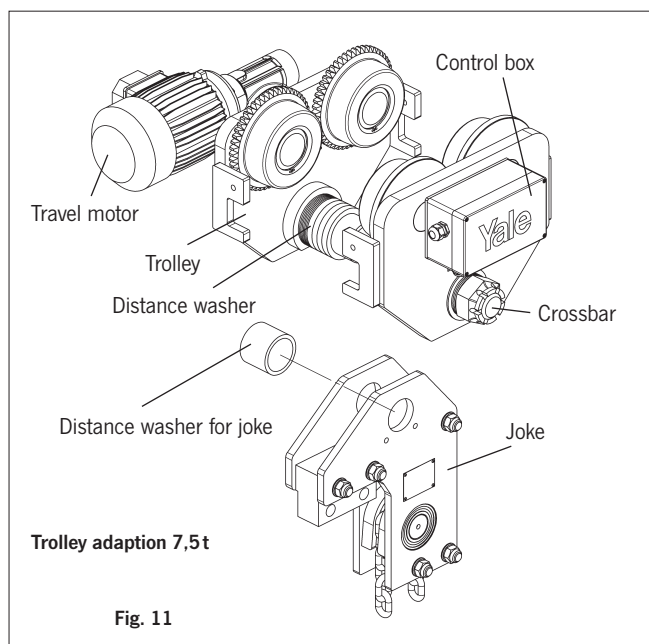

Fig. 11
## Assembly of the trolley 7,5 - 10 t (vgl. Fig. 11 und Fig. 12)
**Attention:** When installing the load bar look out for the spacer for the supporting frame (Fig. 11 and 12).